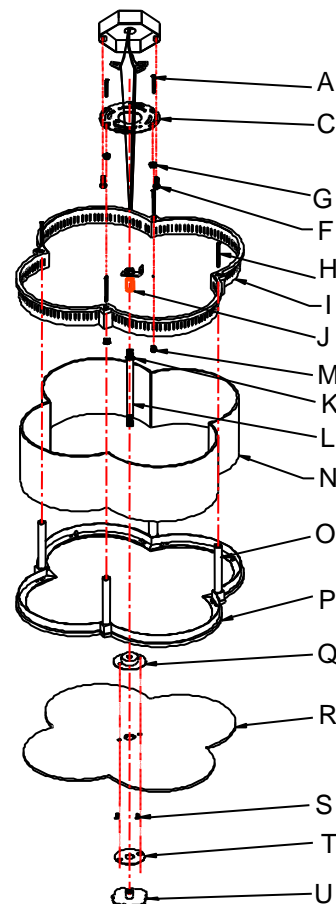

Fig.2
CONNECTING THE WIRES (Fig. 2)
6. While holding the ceiling pan towards the ceiling, connect the electrical wires as shown in (Fig.2), making sure that all wire connectors are secured. If your outlet has a ground wire (green or bare copper), connect the fixture's ground wire to it. Otherwise, connect the fixture's ground wire directly to the mounting plate (C) using the green screw provided. After wires are connected, tuck them carefully into the ceiling outlet box.